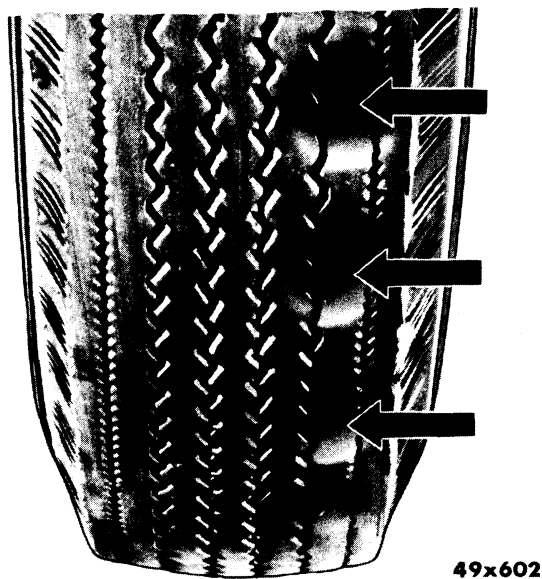

Fig. 29—Spotty Wear
b. Spotty wear (Fig. 29), usually becomes evident on front tires when tires are not rotated